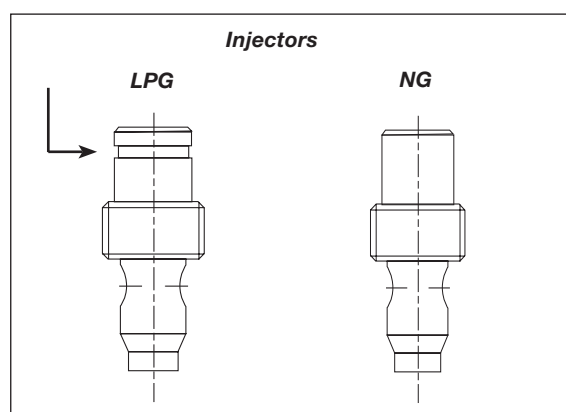

fig. 4
- 5 Verify that the new injector is proper for the application. The injector size is stamped on the side of the injector near the top. LPG injectors have a groove machined around their circumference near the top, while NG injectors do not have a groove (fig. 4). Refer to the Appliance Manufacturer's instruction sheet for the proper injector size.